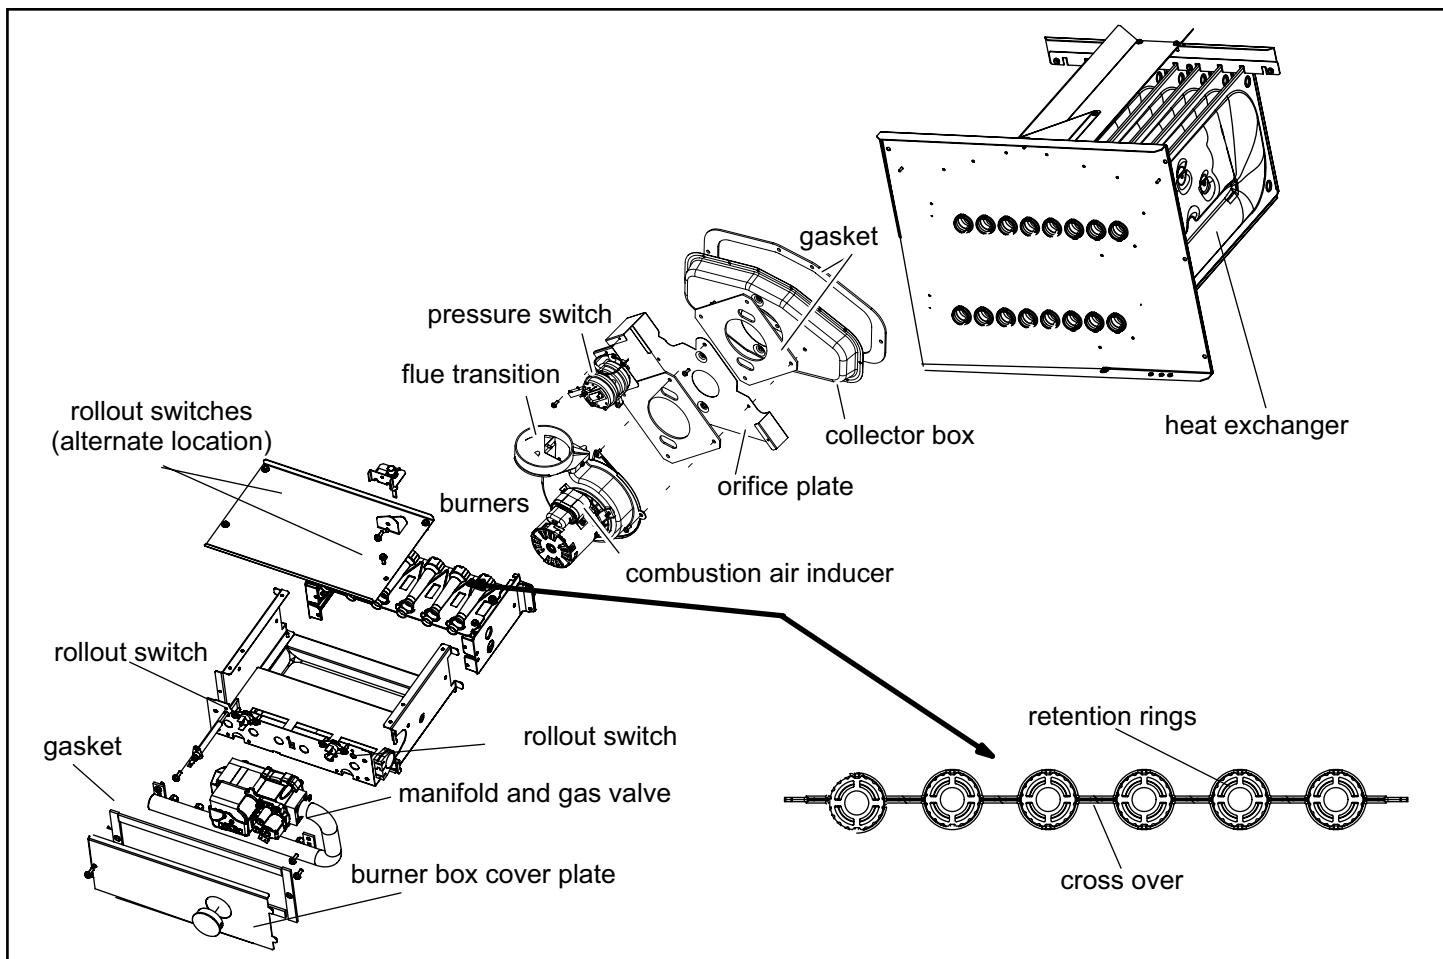

Figure 23. A80US2V Burner, C.A.I. Assembly, and Heat Exchanger Removal
- To clean burners, run a vacuum cleaner with a soft brush attachment over the face of burners. Visually inspect inside the burners and crossovers for any blockage caused by foreign matter. Remove any blockage. Figure 23 shows burner detail.